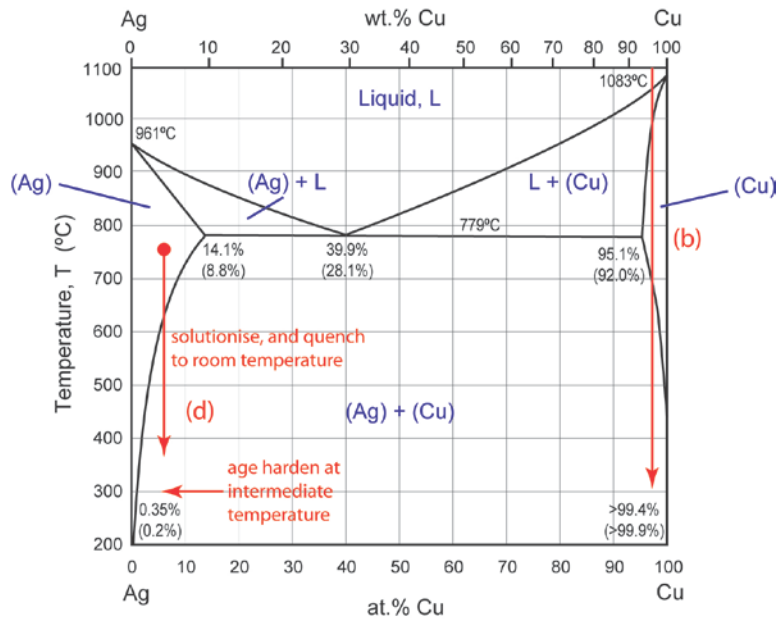

Figure E.29a (solution): Silver-copper Ag-Cu phase diagram
E.29 (a) See Figure E.29a (solution)
(d) See Figure E.29a (solution). Silver will dissolve up to 8.8 wt% Cu in solid solution (at 779°C). So choose an alloy around 5-10 wt% Cu, and solutionise in the single-phase region. By quenching to room temperature, a supersaturated solid solution is formed. Re-heating to a modest temperature (say 200°C) should then precipitate fine-scale Cu, giving precipitation hardening.